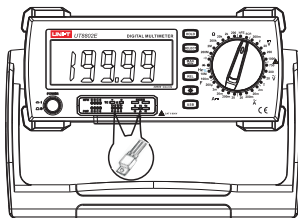

Figure 11
10. Measurement of SCR (see Figure 11)